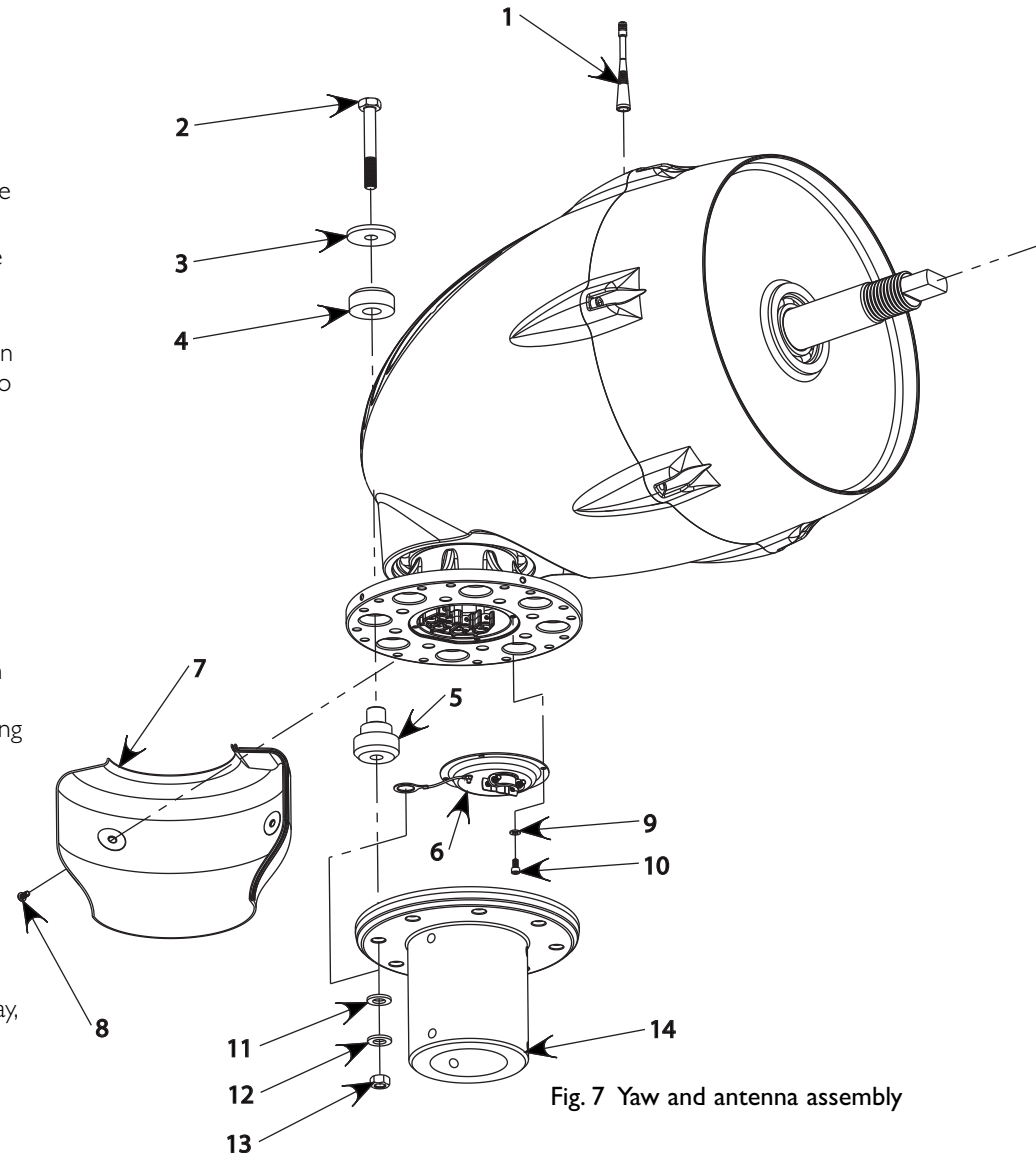

Fig. 7 Yaw and antenna assembly
Refer to Fig. 7 (page 16) for visual aid.
- Install the vibration isolators on yaw flange as shown in Fig. 7 (page 16). Install snubbing washers and bolts in vibration isolators.
Note: The orientation of the vibration isolators is very important. Refer to Fig. 7.
- Mount yaw shield halves using four M5 button head screws. See Fig. 7 (page 16). Use Loctite® 242 supplied with Skystream.